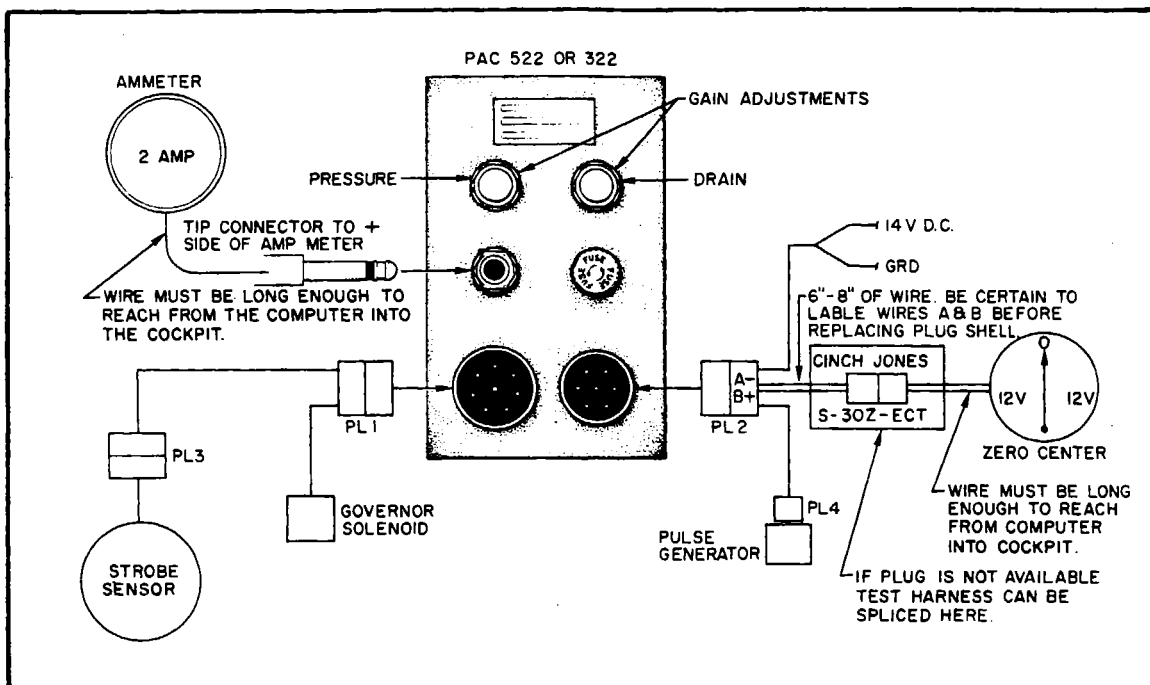

Figure 14-46. Fabricated Test Box
- (a) If the system operates in the manual mode but not in the phase mode, listen to the computer for an audible relay click when the system is switched from the manual mode to phase mode. The relay is on the bottom deck of the computer assembly. The use of a 2 amp meter and test plug will simplify this check. (Refer to Figure 14-46.)